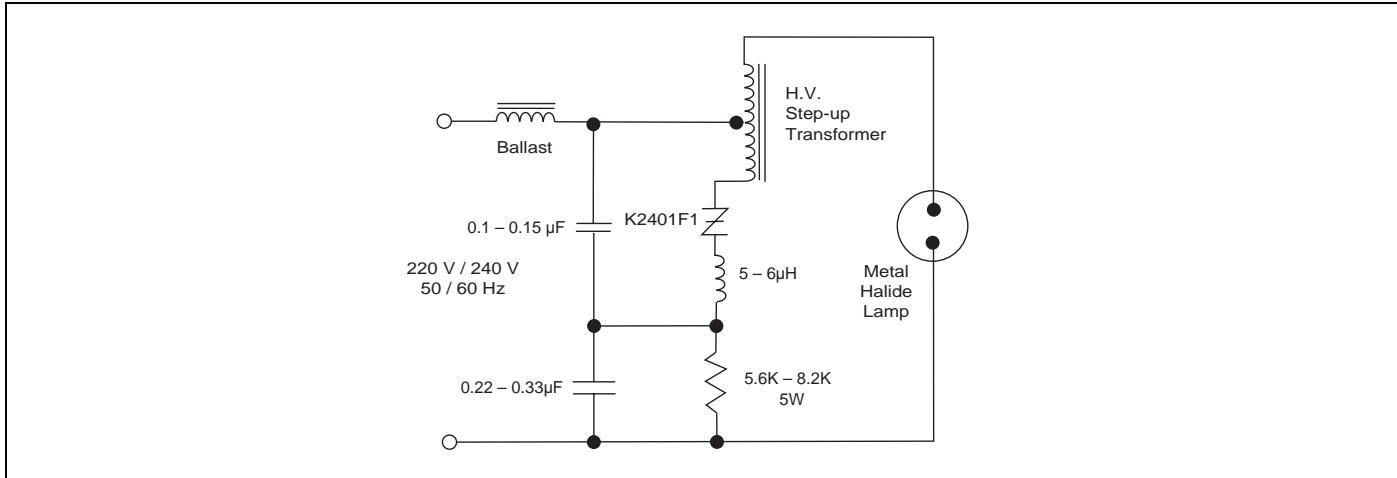

Figure E9.17 Typical Metal Halide Ignitor Circuit
(10) Do not use electrically connected mounting tab or center lead.
(11) The K2401F1 sidac is designed to ensure good commutation at higher switching frequencies, as required in ignitor circuits for high intensity discharge (HID) lighting. A typical circuit for a metal halide lamp ignitor is shown in Figure E9.17. With proper component selection this circuit will produce three pulses for ignition of Osram lamp types such as HQI-T70W, HQI-T150W, and HQI-T250W which require a minimum of three pulses at 4 kV magnitude and  $>1 \mu\text{s}$  duration each at a minimum repetition rate of 3.3 kHz.